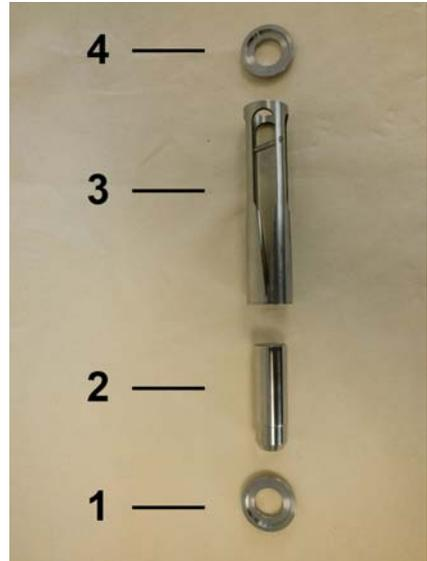

Fig. 38: Inner parts SW-04
5. → The inner parts of the flow monitor consist of the centering disc (inlet) (Fig. 38/1), float (Fig. 38/2), slot nozzle (Fig. 38/3) and centering disc (outlet) (Fig. 38/4).